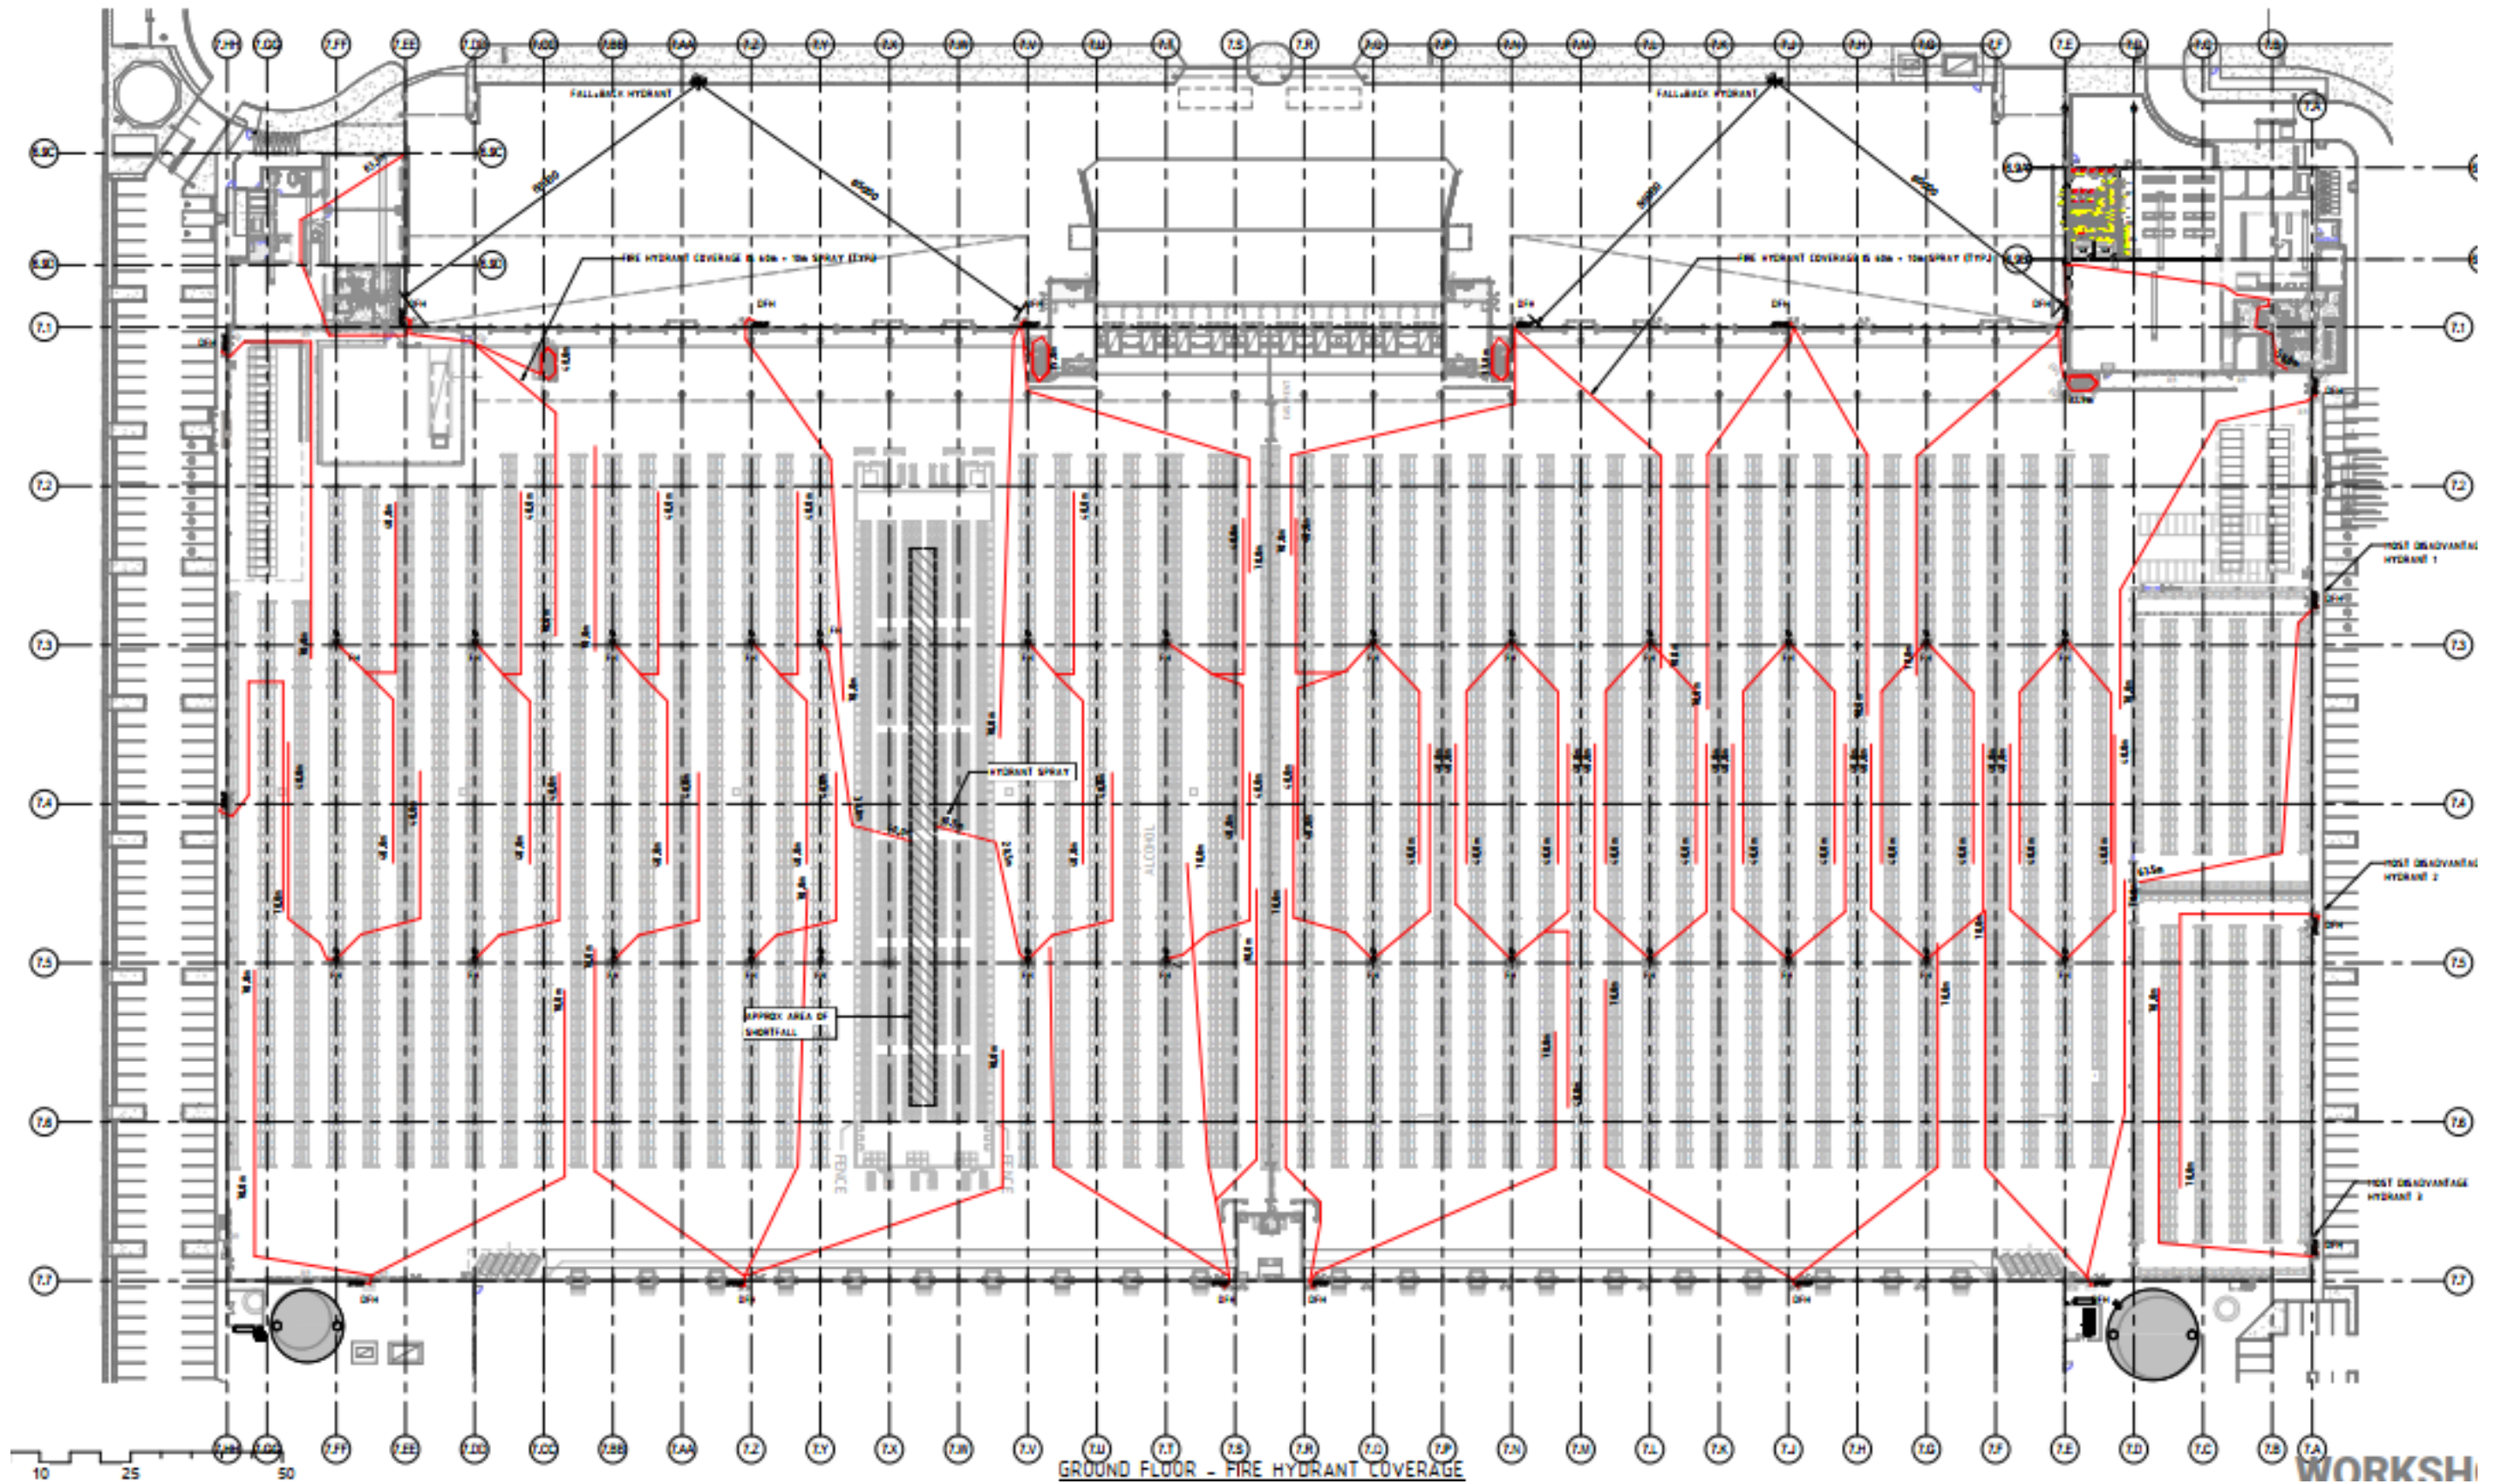

Figure 4-1: Fire Equipment Plan
The location of hose reels (HR) and dual fire hydrants (DFH) at the site are shown in **Figure 4-1**.